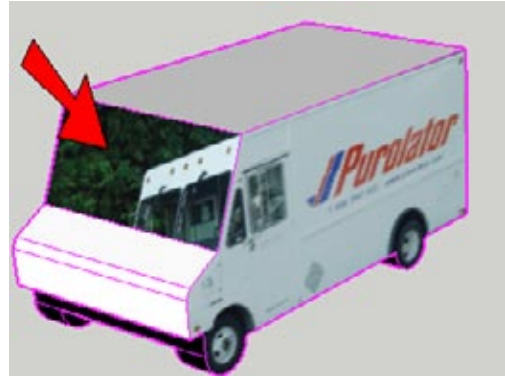

Figure 9-47
9. To paint the front of the truck, sample the material on the side and click the front face (Figure 9-47).